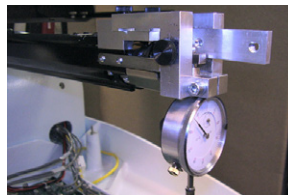

Figure 3 - Dial Indicator and Adaptor Installed on Lower Arm Extrusion
5. Install the dial indicator (PN: 32453-01) and Head Timing Adaptor (PN: 33065) on the lower arm extrusion as shown in Figure 3. Tighten the screws enough to hold the fixture securely.